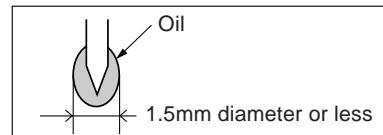
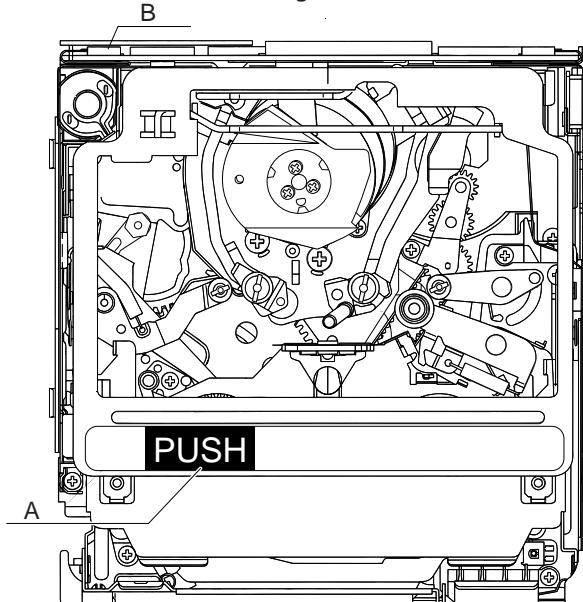

Fig. 1
Fig. 2
- (1) When replacing any part, always replace the cut washer that was removed with a new one.
- (2) This mechanism does not have control adjustment. If the control cannot be set as required, clean and or replace parts.
- (3) On the oil
- c) One drop of oil is the amount shown in the Fig. 1, on the point of a pin.
- (4) Perform circuit repair, tape running adjustment, etc. with the cassette controller assembly attached to the mechanism.
- (5) When operating the mechanism separately, apply voltage to the loading motor. However, the terminal voltage must be DC3V or less. (When the mechanism is connected to the main PWB, do not apply external voltage to the loading motor. It may cause a trouble.) (Forcing the gears to turn by hand entails danger of breakage.) If the mechanism is separated from the unit, the capstan motor may rub and be damaged if spacing under the mechanism is inadequate.
- (6) To install the cassette controller, push section A in the Fig. 2. Do not push anything else.
- (7) Do not deform any of the mechanical parts.